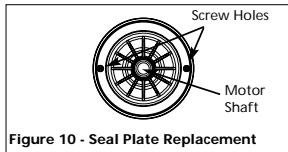

Figure 10 - Seal Plate Replacement
- Carefully slip seal plate over shaft. Do not disturb seal position in seal plate. The seal plate must be oriented during assembly so the two screw holes are on a horizontal line across the motor shaft and the (4) locating pins on the back of the seal plate line up with the tabs on the motor housing (Figure 10). This placement should be done to ensure proper draining and priming.